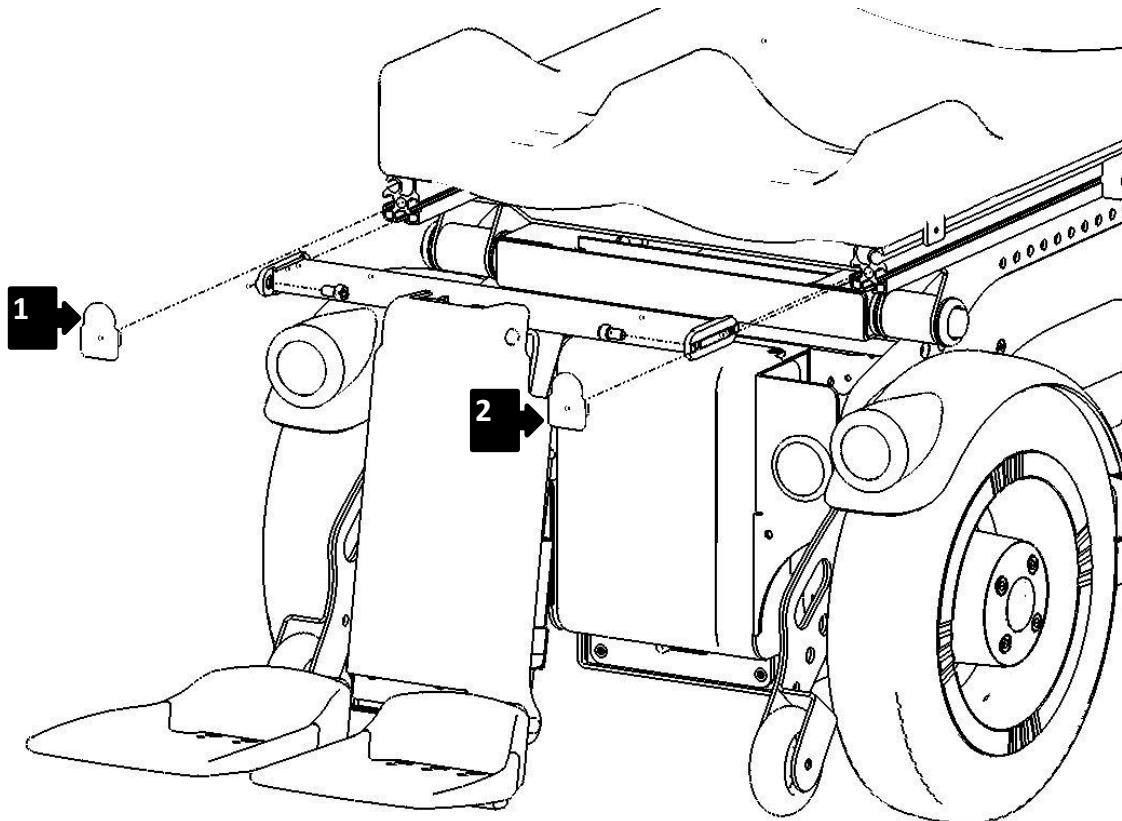

Figure 49
Remove the seat cushion. Seeing Figure 49 remove the caps (1) and (2) and unscrew the 4 screws of the legrest beam.